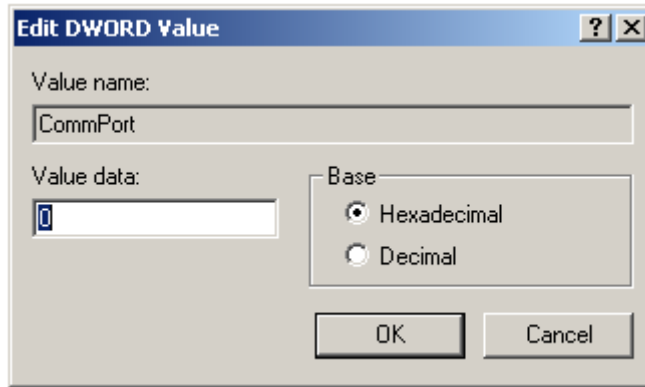

Figure 2, Edit DWord Value
- Verify barcode scanner by clicking on “Barcode Scanner” and double clicking on “CommPort”. You should see the following dialog, as shown in Figure 2.